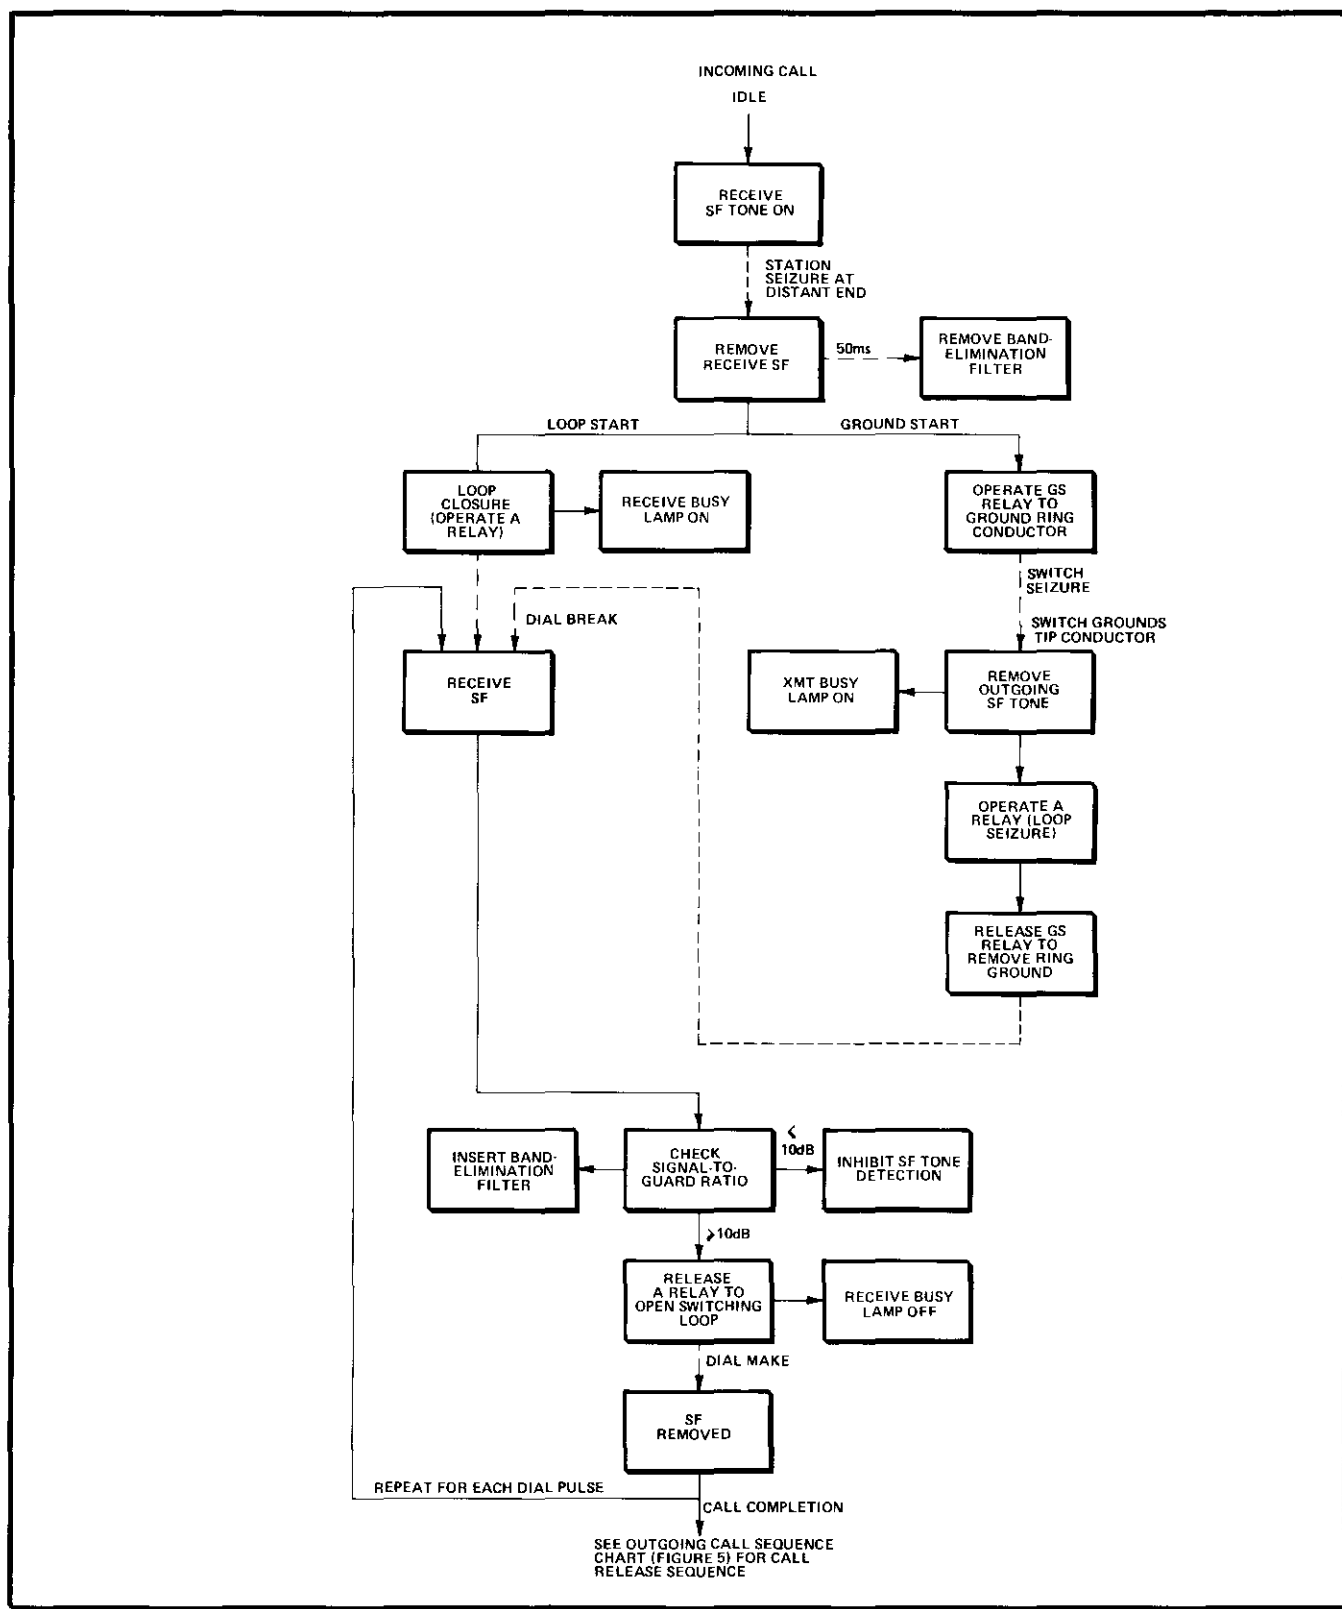

figure 4. Function sequence chart, incoming call, FXO mode
4.01 To provide the clearest possible understanding of the operation of the 6947 and 6947A Universal SF Signaling modules with Gain, sequence charts (figures 4 through 8) that illustrate sequential operation of the module on incoming and outgoing calls are presented in lieu of a more conventional circuit description. Horizontal paths identify